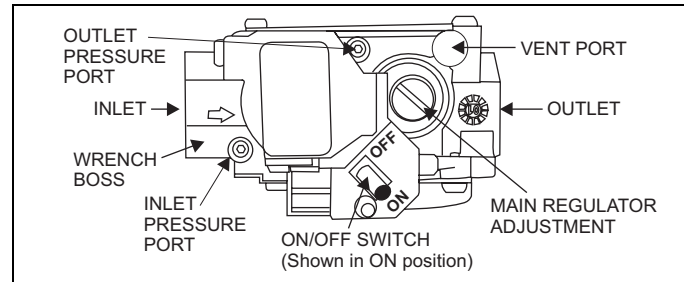

FIGURE 25: Gas Valve
1. Refer to Figure 25 for location of pressure regulator adjustment cap and adjustment screw on main gas valve.